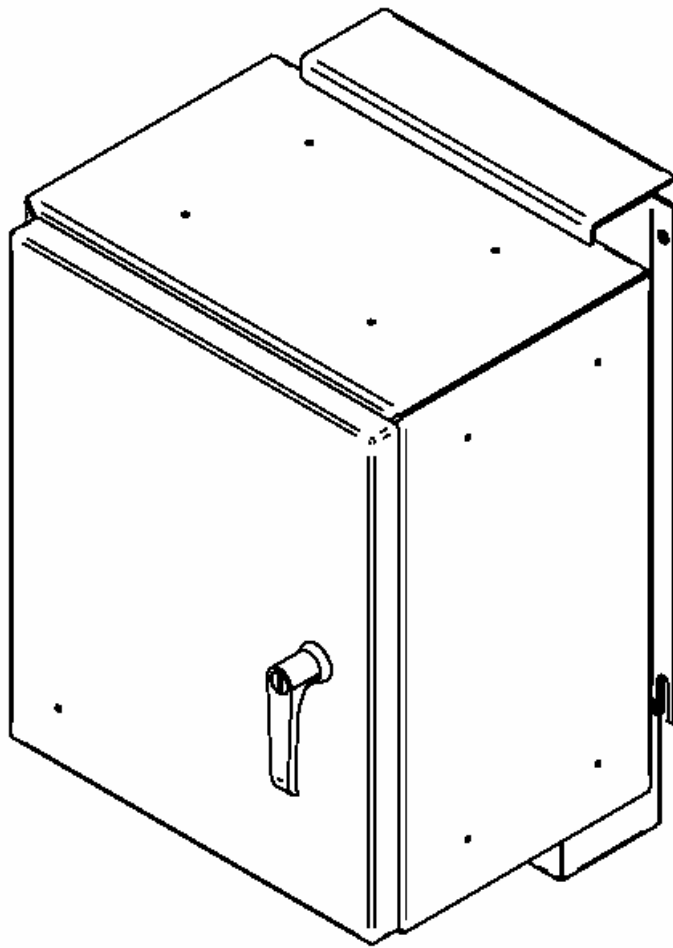
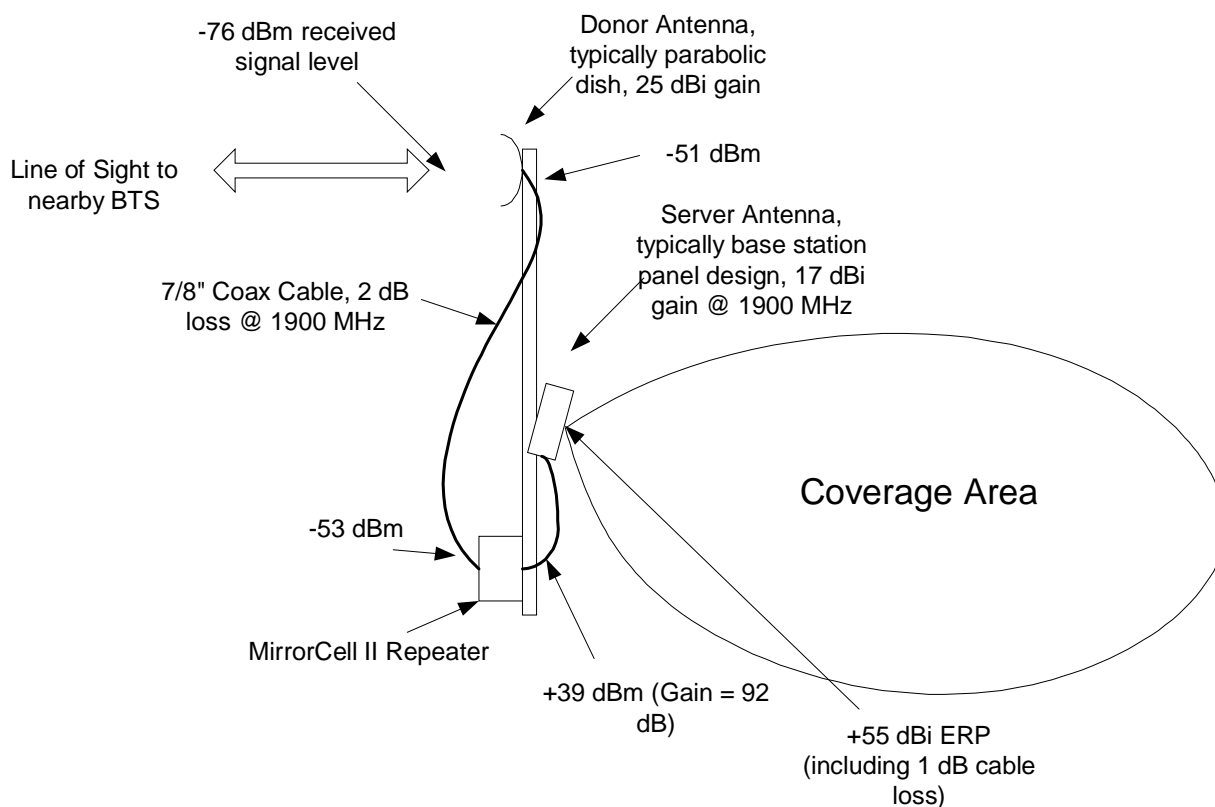

Figure 1: MirrorCell® II Repeater Exterior View
Figure 2: Typical Outdoor MirrorCell® II Repeater System Design
- Figure 1: MirrorCell® II Repeater Exterior View
- Figure 2: MirrorCell® II Typical Outdoor Repeater System Design
This fully featured repeater is designed primarily for large outdoor use (several miles radius of coverage, depending on terrain), or for indoor use with medium sized buildings (100,000 to 200,000+ square feet [10,000 to 20,000 square meters]). The repeater is contained in a weatherproof outdoor NEMA 4 enclosure, as shown in Figure 1. It may be used as a simple and inexpensive alternative to a base station (BTS). The block diagram in Figure 2 shows a typical outdoor installation.